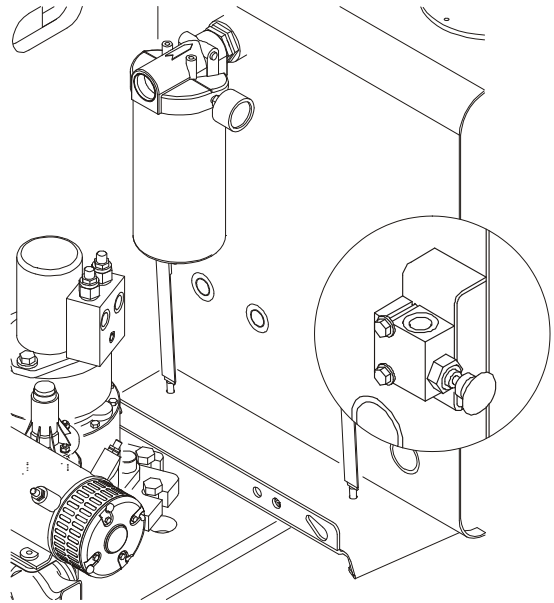

Figure 4-12. Releveling Valve
A pull type control valve allows the operator to adjust the upright level cylinder if the upright is not 90° (vertical) relative to the chassis (Refer to Figure 4-12.). This valve is located in the tank compartment area.
3. Pull and hold the red re level knob located next to the main control valve. Refer to Figure 4-12.